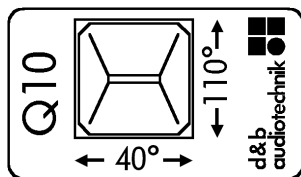

Fig. 11: Horn dispersion label
3. Rotate the horn through 90° - Fig. 11.